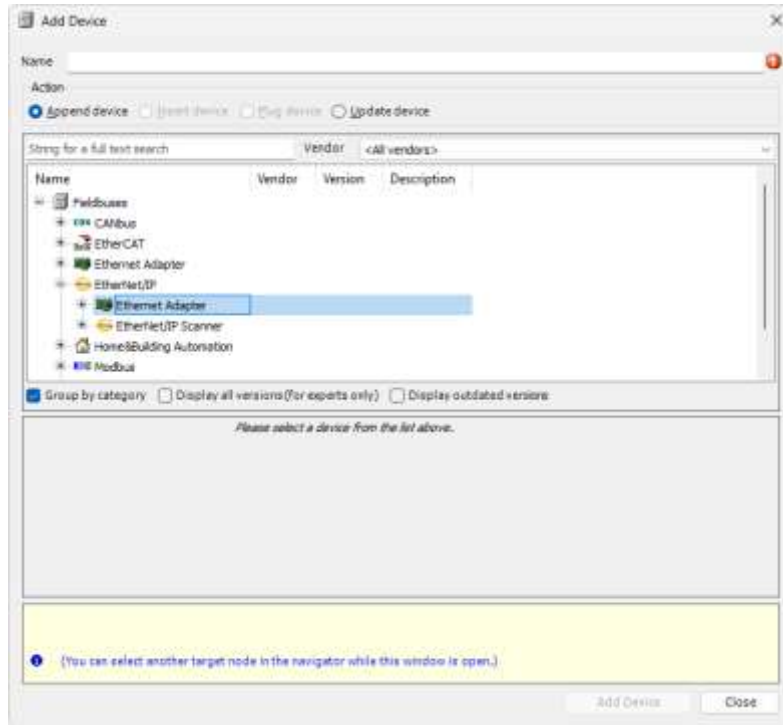

Figure 32. Add Device Pop-Up
- iv. Click **Add Device** (see Figure 32).